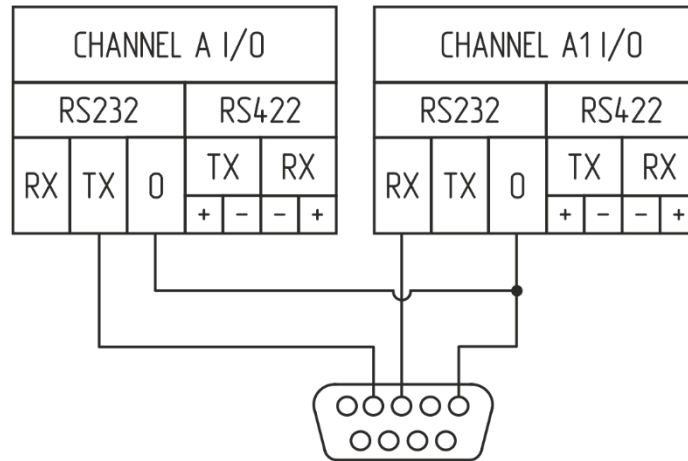

Figure 14 – Connection to a PC
- connect the Product to the PC by connecting COM-port contacts with the terminals, see figure 14;